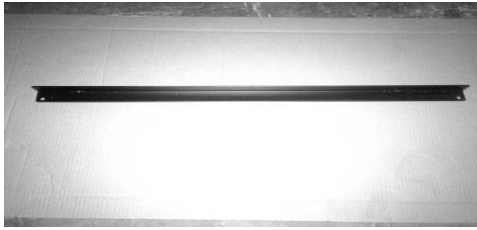

FIG. 12
- To prevent unauthorized use the GG8220PL is equipped with a key lock feature. (**SEE FIG. 12**) An indicator light will be lit on hand remote when unit is powered.